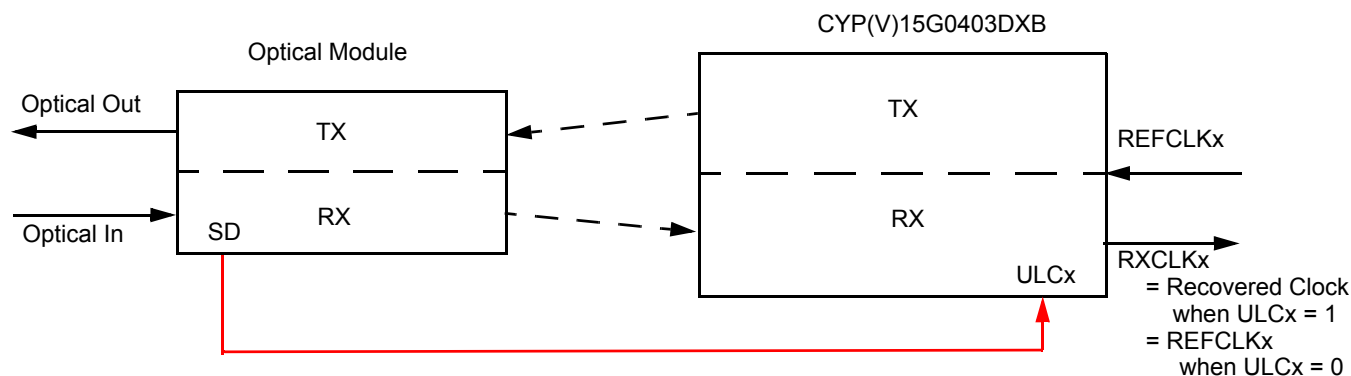

Figure 11. Example of ULC_x While Using an Optical Module
This function is used in applications where a stable $RXCLKx \pm$ is needed in the absence of valid incoming serial data. An example of its use is shown in *Figure 11*. When an optical signal is lost or extremely attenuated during transmission, the RXPLL will not be able to lock to the incoming serial data stream. In order to maintain a stable $RXCLKx \pm$, \overline{ULCx} needs to change to 0. To automatically perform this change, the Signal Detect control signal (SD) of the optical module can be connected to \overline{ULCx} . In this